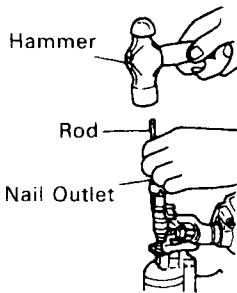

Fig. 19
- (1) Remove the nails from the magazine, open the nail guide, insert a rod into the nail outlet and tap the rod with a hammer. (Fig. 19)